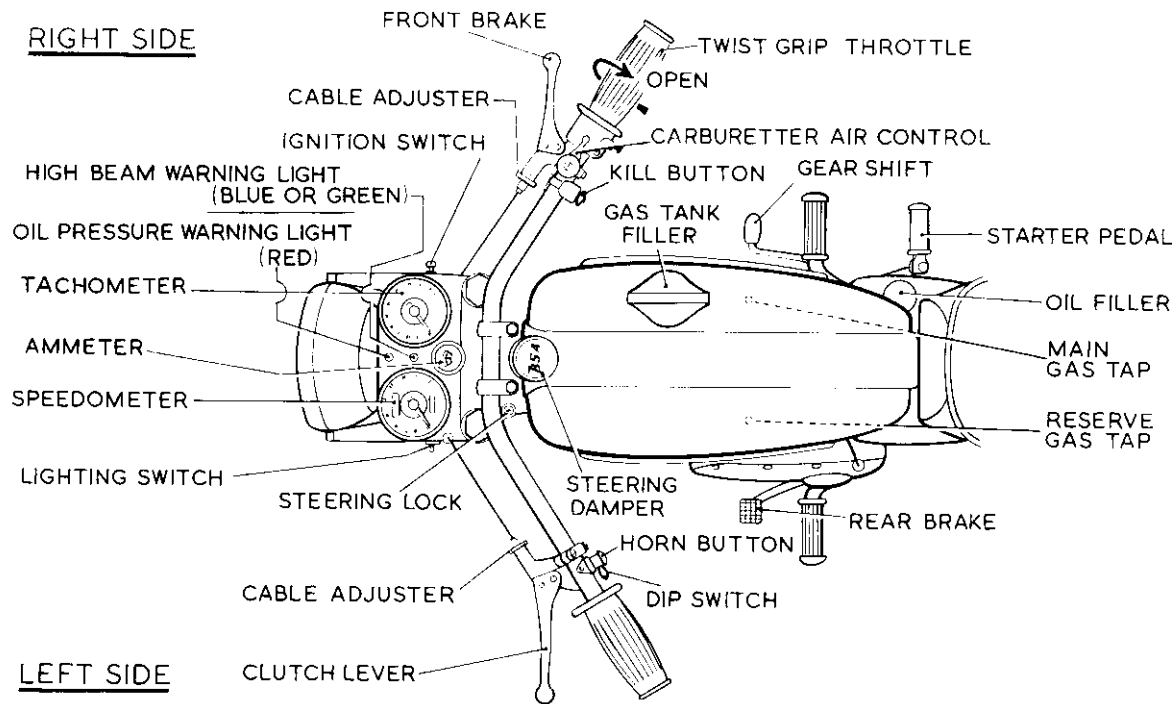

FIGURE 1. *The controls.*
**Front Brake Lever.**—Finger adjustment is provided for the cable at the abutment on the lever, Fig. 1.
**Clutch Lever.**—Finger adjustment is provided for the cable at the abutment on the lever, Fig. 1.
If the motor is cold, depress the carburetter ticklers (*P*) Fig. 27 momentarily, and close the air control lever, Fig. 1.
Open the throttle slightly, Fig. 1, and slowly press down the starter pedal until resistance is felt; then, without releasing the pressure on the pedal, give a firm downward swing, which should start the motor.